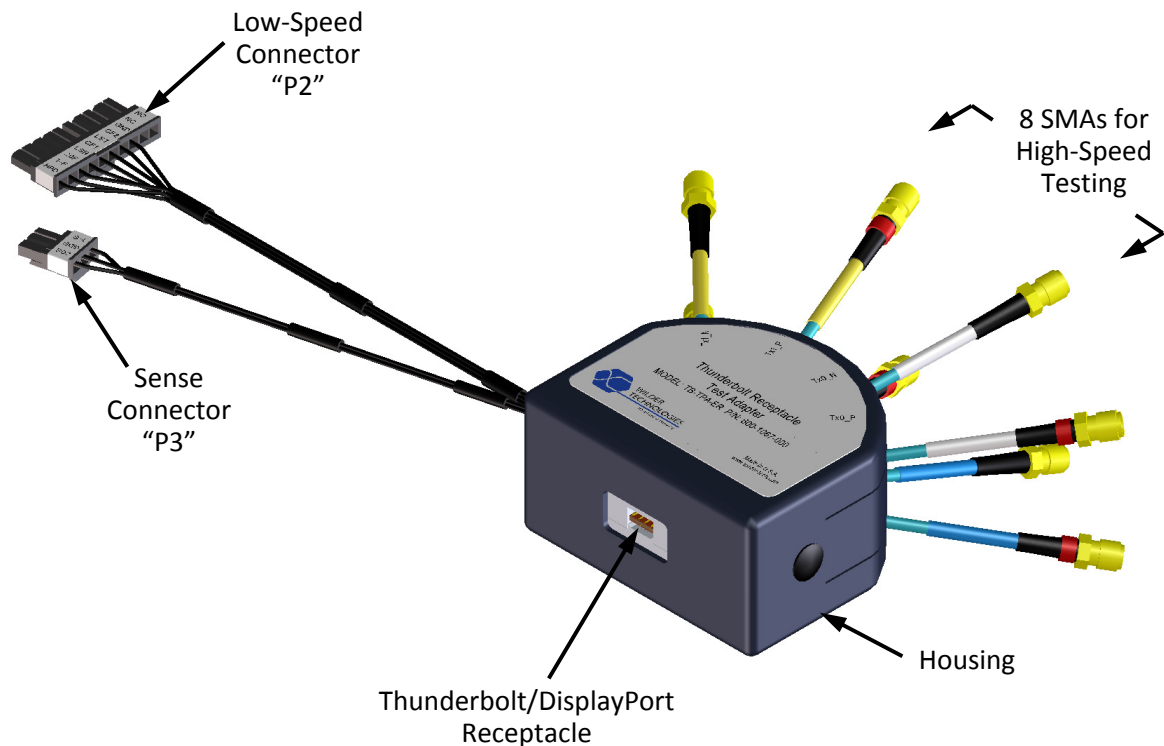

Figure 1. The Thunderbolt Enhanced Receptacle Test Adapter
This user's guide documents the Thunderbolt Enhanced Receptacle Test Adapter (TBT-TPA-ER) and the associated de-embedding option. The test adapter, shown in Figure 1, tests Thunderbolt interface (TB) cables against the Thunderbolt PHY Compliance Test Specification. Calibration through de-embedding is presented on Page 11, and can be used to zero-out test adapter attributes.